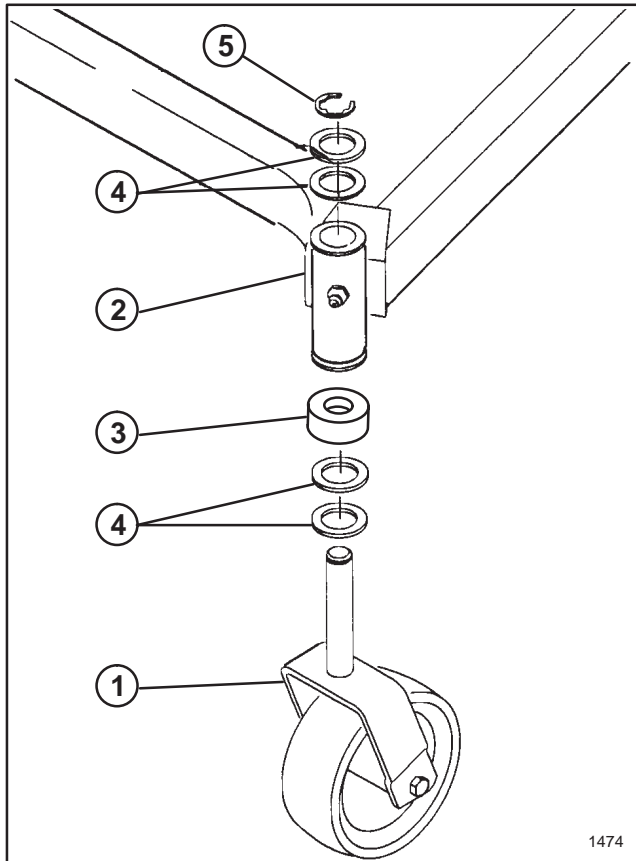

Figure 1
1. Place (2) thrust washers onto castor wheel shaft (Fig. 1).
2. If cutting unit is to be mounted on a traction unit with a serial number of 590001 & up, position a caster wheel spacer (Fig. 1) below carrier frame, when mounting caster wheels. When mounting cutting units on traction units with serial number prior to 5900001 place the spacer above carrier frame.
3. Insert shaft into carrier frame mounting tube. Install (2) thrust washers and secure with retaining ring (Fig. 1).